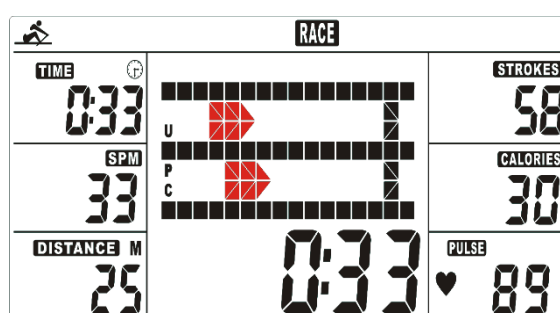
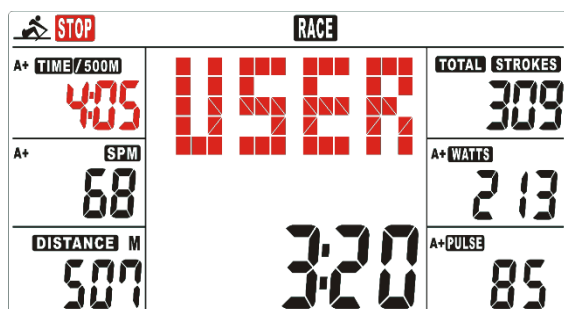
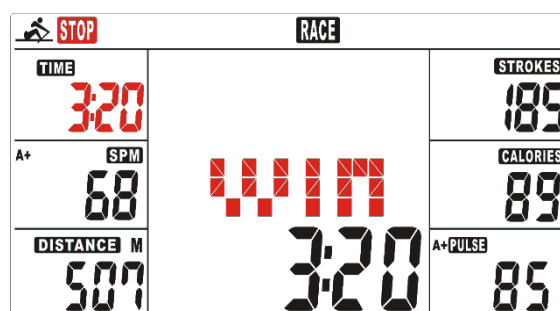

FIG 8
FIG 9
FIG 10
B. Press the START KEY to start exercising and STOP will disappear at the same time. The USER & PC will be displayed in a rectangle (FIG 8), when the value reaches the previously preset value, the display will stop. Then, the rectangle will display "PC WIN or USER WIN" (FIG9~FIG 10)